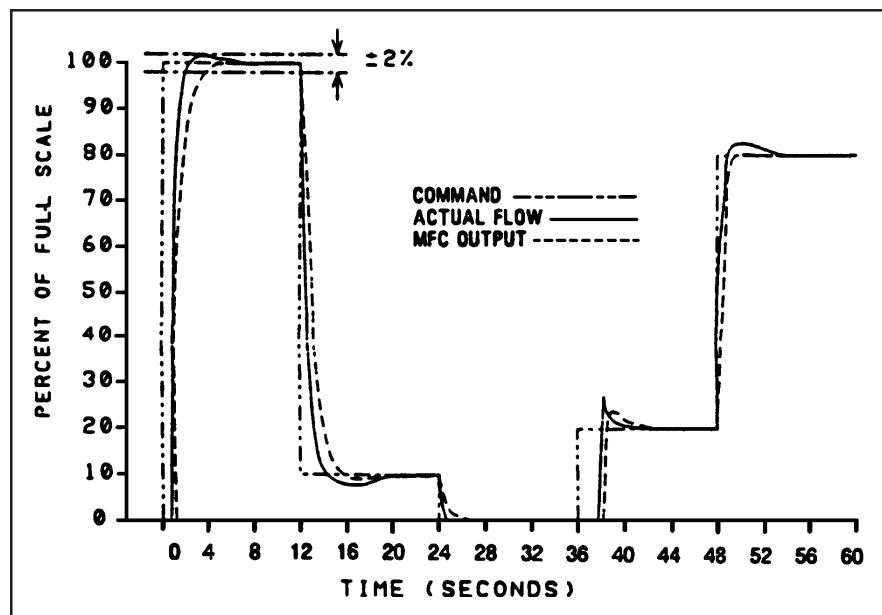

Figure 1-1 Command Steps, Soft Start Disabled
- FAST RESPONSE CONTROL permits rapid gas settling times with little or no over/undershoot. Refer to Figure 1-1.